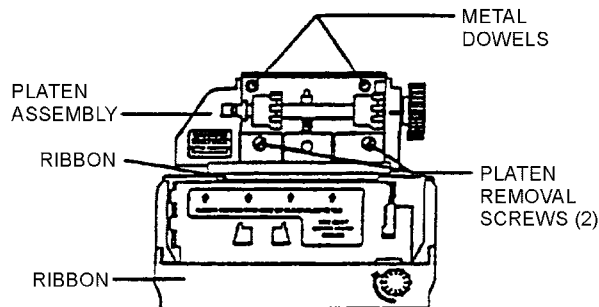

Figure 23. Platen Assesmbly
- a. Loosen two platen removal screws in platen assembly until they are loose from the printer frame (Figure 23).
- a. Gently place platen assembly onto printer frame by aligning holes of platen assembly frame over metal dowels on printer frame (Figure 23).